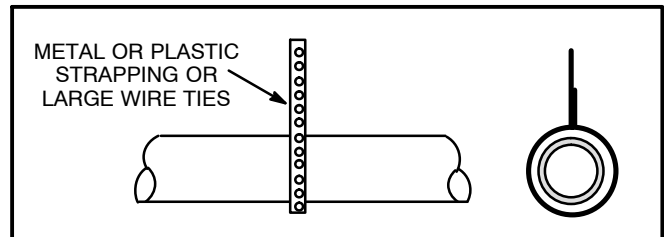

FIGURE 4
- 8 – Suspend furnace vent pipe with hangers to support vent termination. See figure 4.
- 7 – Suspend furnace vent pipe with hangers to support vent termination. See figure 4.